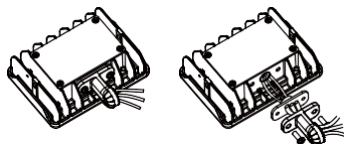

figure 1.2
- Step 3: Match the hole of rubber mat with bracket, pass wire through and fix it with screws(Watch out not to scratch the wire); (figure 1.2)